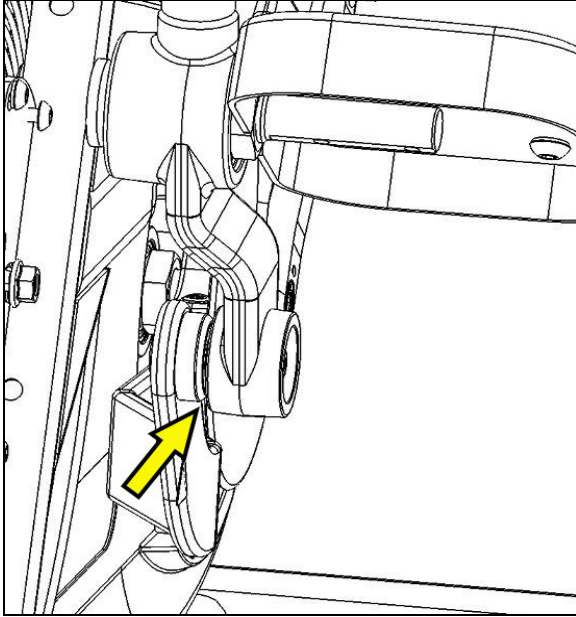

Fig. 9
9. Disconnect the crank link arm from the spherical bearing in the arm using a flat head screw driver. (Fig. 9).